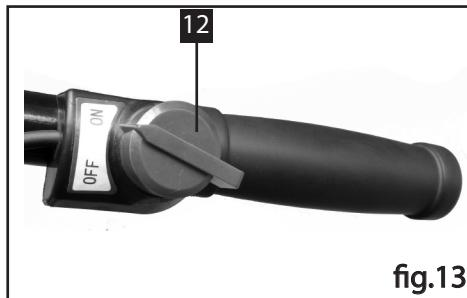

fig.13
- 3) Push below switch to the "ON" position.(Fig. 13)
Push the Engine switch to the "OFF" position. (Figure 13)